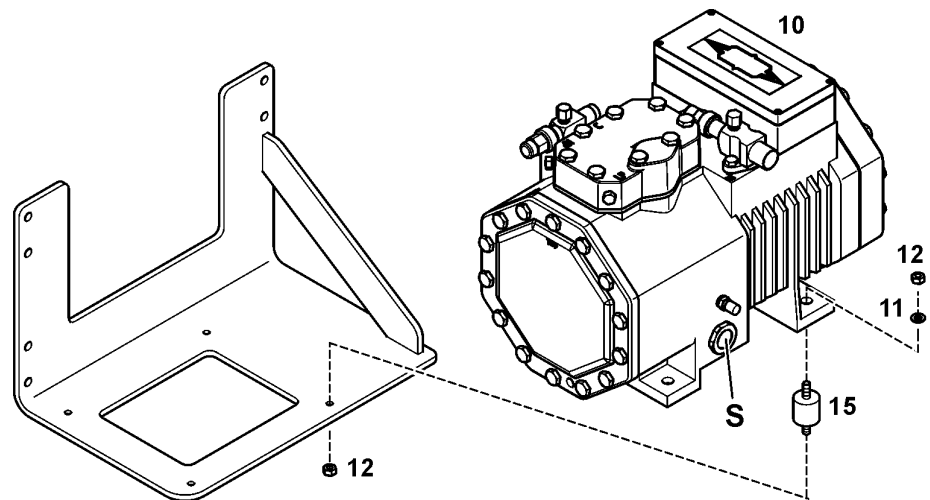

Fig. 5-45 A/c compressor
- ▶ Oil level 1/4 to 3/4 of sight glass height **S** (see Fig. 5-45) (repeat check several times during the first few operating hours).